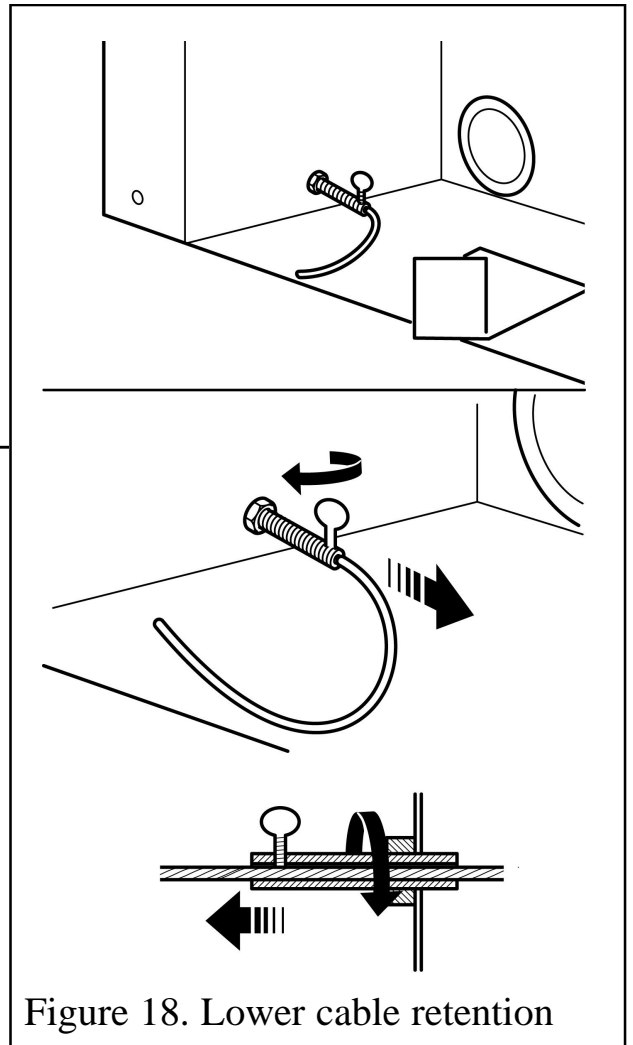

Figure 18. Lower cable retention
9. Pull each cable taut. Push the cable adjusters hard up against the back panel. Tighten the screws in the adjusters so that they clamp the cables in position. Apply tension to the cables by turning the hexagonal adjusters by hand (See figure 18).